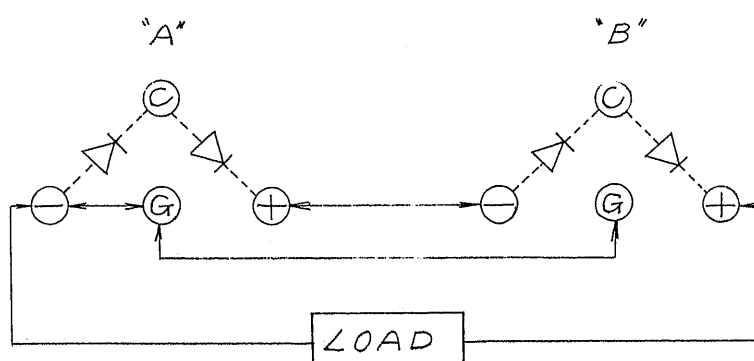

Fig. 10 In case of grounding of minus terminal
- (1) Output voltage higher than 120 V can be used as series output. Connect output terminals as shown in Fig. 10. Take care not to ground the different terminals of the two equipments. Also, do not connect the COM terminal. In this case, turn the % knob of DUAL TRACKING equally for both equipments, and the output can be varied accurately.
In this method of operation, overload causes one equipment to apply output voltage in the reverse direction to another equipment in which the protective circuit has started to operate first, and the serial control transistor in the latter is destroyed. To prevent this trouble diodes are connected between output terminals to bypass current. (Refer to Fig. 10)